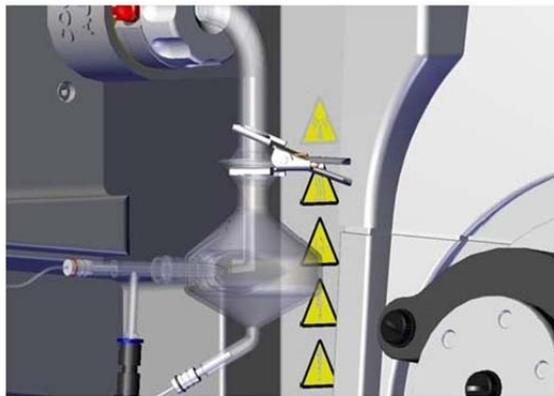

Figure 6-13. Spray chamber fitted
11. Insert the spray chamber adapter fitting into the torch assembly holder as far as it will go. Connect the nebulizer gas supply to the push-fit fitting. See Figure 6-13.